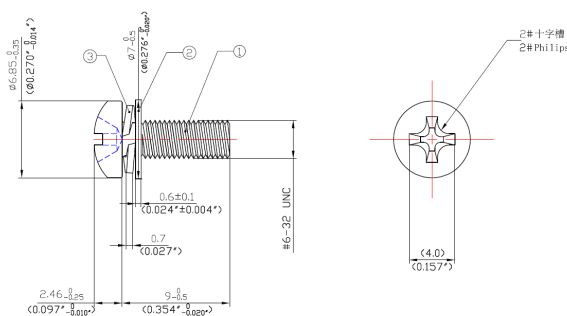

Fig.1. Preferred metal screws size
- Please use metal screws size UNC#6-32 (see Fig. 1) to mount the unit and make sure the 5 mounting holes are connected to Earth well.